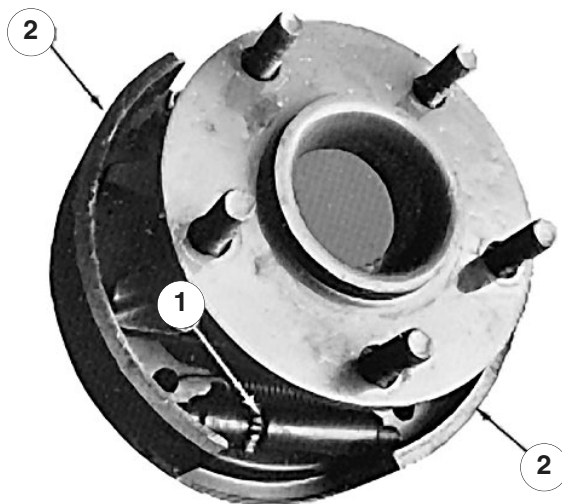

Figure 46
6. Using a brake adjusting tool or screwdriver, turn the star nut (Fig. 45) down until the brake drum (Fig. 46) locks because of outward pressure of the brake shoes (Fig. 46).